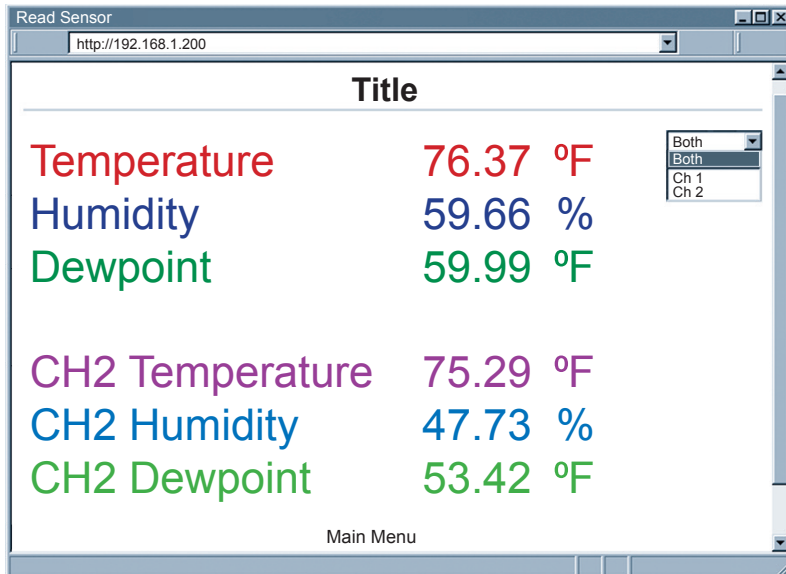

Figure 4.7 Read Sensor
- Click on Read Sensor. In a few seconds the following page (**Figure 4.7**) will appear with all default values of 100.00. Then the actual readings of Temperature, Humidity and Dewpoint will be displayed.
- You may select to display Channel 1, Channel 2, both (as Shown in **Figure 4.7**) or a difference between the two channels.